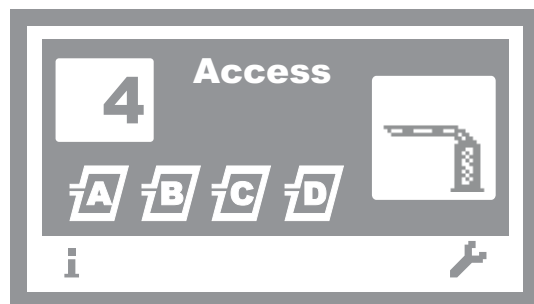

Fig. 1: Example "Operational view"
- Press the left button  repeatedly until the operating view is displayed again. → Refer to page 20, Fig. 1.